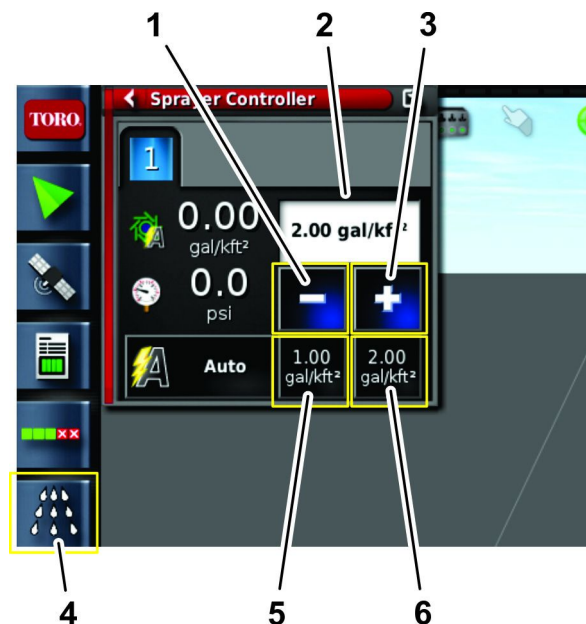

Figure 180
- Enter the desired application rate by using the pre-sets, increase or decrease icons, or by selecting the current-target application rate icon (Figure 180).